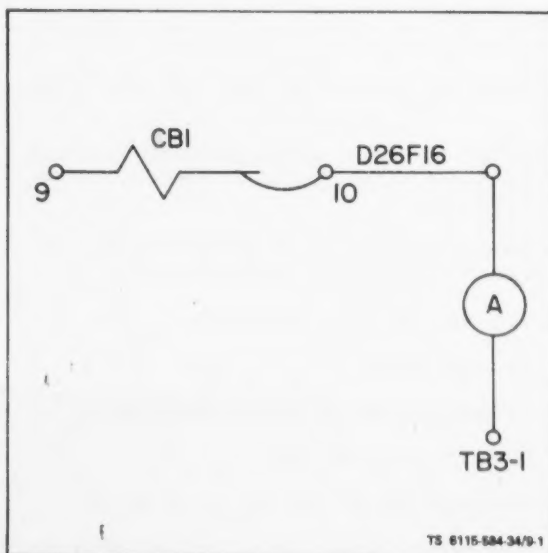

Figure 9-1. Adjusting R3 Resistor
a. Remove wire D26F16 from TB3-1 and connect 0 to 1 amp ac test ammeter as shown in figure 9-1.